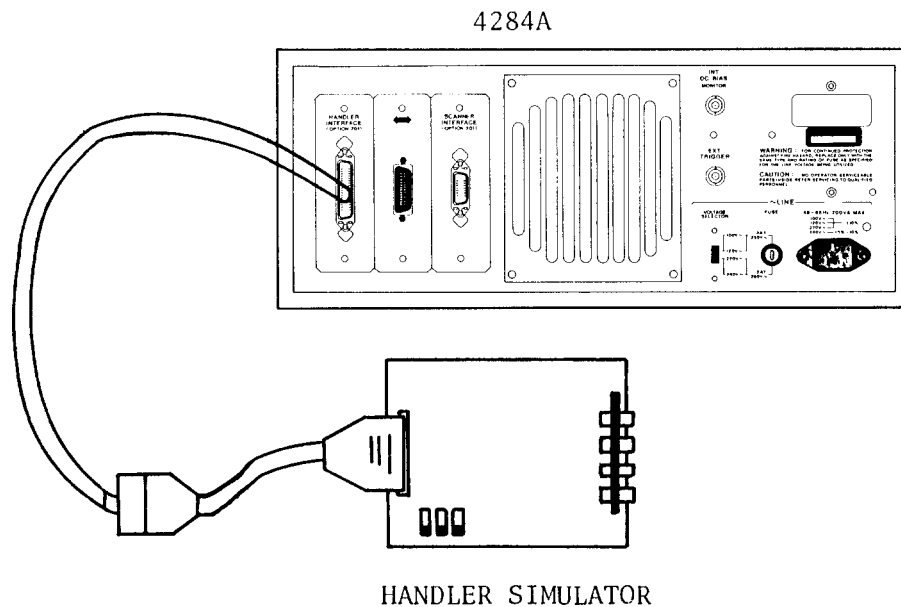

Figure 10-18. Handler Interface Function Test Set up
13. Confirm that the LEDs on the handler simulator board turn ON in accordance with the 4284A's output signals displayed on the LCD. The LEDs should turn ON in the sequence shown in Figure 10-18.